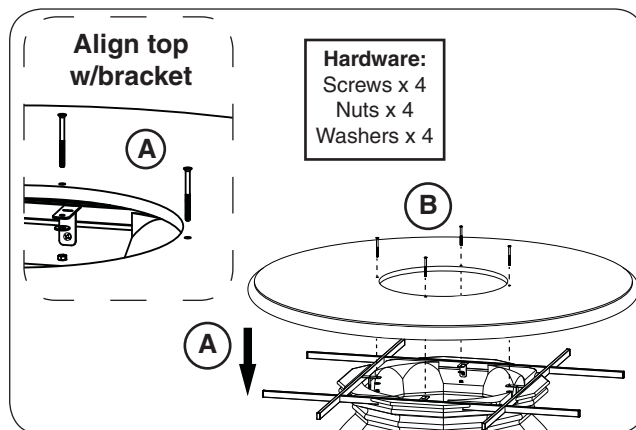

Fig. 19-3 Place top and fasten
4. **CAREFULLY** place the top on the unit, ensuring that the holes in the top piece align with the holes found in the bracket below (see Fig. 19-3, A).
5. Use a Phillips screwdriver and the supplied bolts (4), nuts (4), and washers (4) to fasten the top piece to the bracket as shown in Fig. 19-3, B.